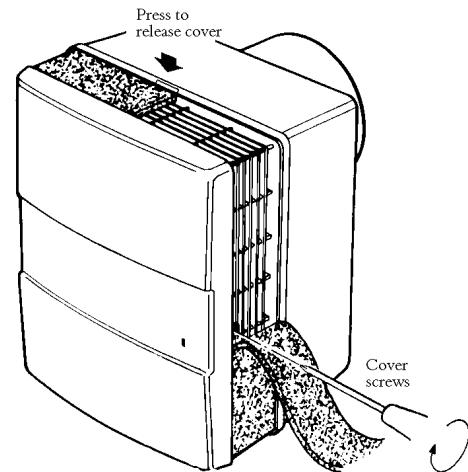

Fig. 3. Removing/replacing the front cover.
1. Remove cover/grille assembly by depressing the top & bottom retaining tabs.(fig. 3)
8. Fit the filter which is a push fit between the front cover and the body of the unit (fig. 3).
Wash filter on tepid water to which a little mild detergent has been added. Shake out excess water and allow to dry naturally. Replace filter. Refit the retaining screws (fig 3). Test run the unit.